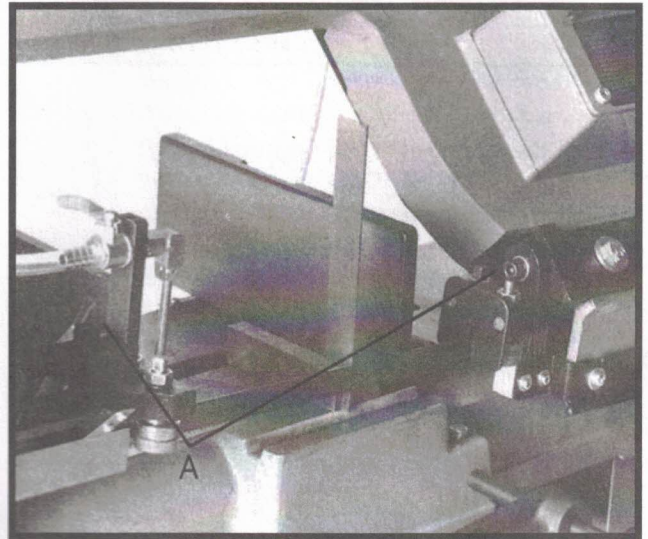

Fig. 6
2. Place machinist's square on table next to blade as pictured in Fig. 6.
4. If adjustment is necessary, loosen bolts (A Fig. 6.) and rotate blade guide assemblies slightly in the same direction until blade makes contact with the square along it's entire width.
5. Tighten bolts (A).